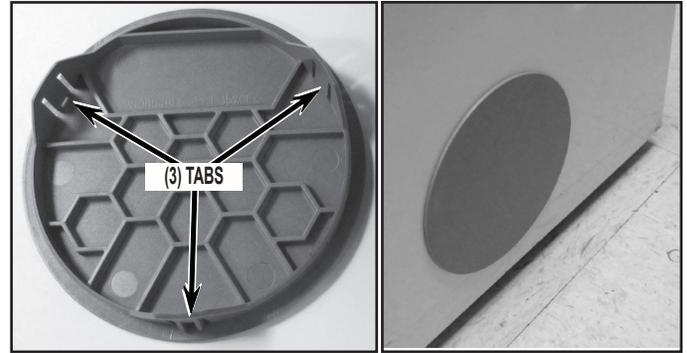

FIGURE 22
**NOTE:** If dryer was previously setup for side venting leaving an exposed knockout hole or had additional panel knockout removed, from outside of dryer install the plastic plug(s) included with kit to the side panel knockout hole(s). See *Figure 22*.